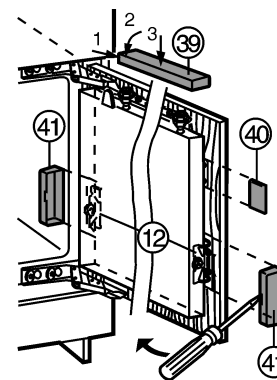

Fig. 36
- ▶ Position the upper cover *Fig. 36 (39)* and snap into place.
- ▶ Place the lateral cover *Fig. 36 (40)* in position, slide to the limit and then press until it snaps audibly into place.
- ▶ Attach covers *Fig. 36 (41)* to the side and then draw them forward with a screwdriver, so that they snap properly into place.